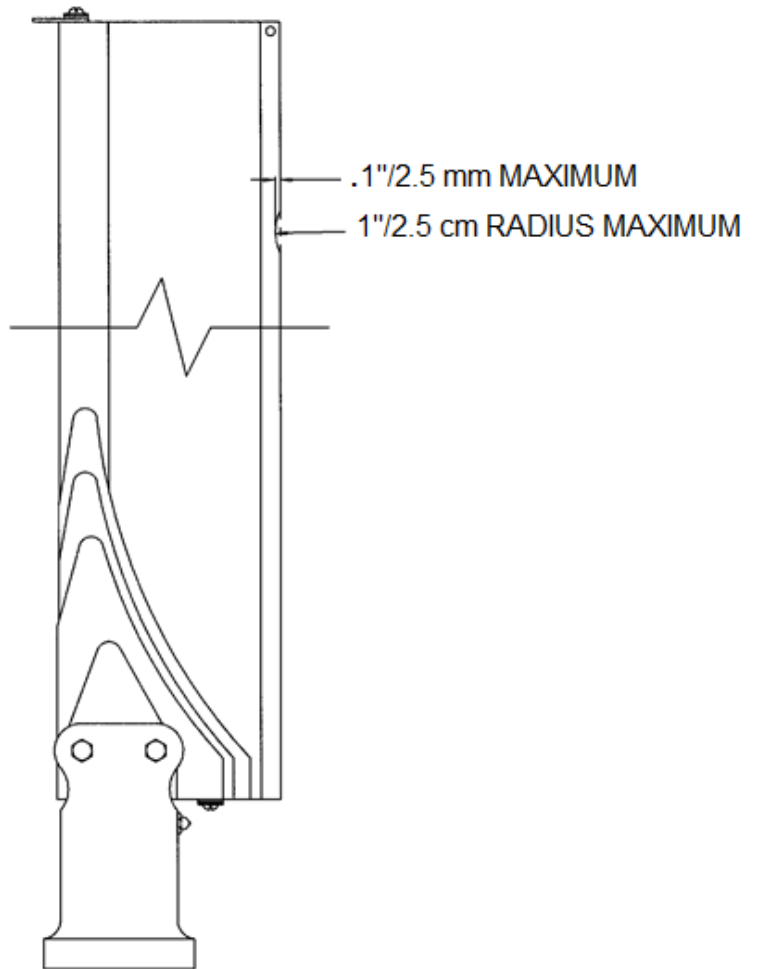

Figure 10-2. Tail Rotor Blade Trailing Edge Repair Limits
- (3) Repair voids and separations of the tail rotor blade bond lines that do not exceed the limits step (2) above, in accordance with Para. 9-10.D.
- (4) Reject tail rotor blades with the following blade skin damage:
- (5) Repair damage to the blade skins not exceeding the limits in step (4) above as follows:
- (c) Blend out nicks in the trailing edge in accordance with Fig. 10-2.
- (6) Reject tail rotor blades with the following abrasion strip damage:
- (7) Repair damage to the abrasion strip not exceeding the limits in step (6) above, as follows: